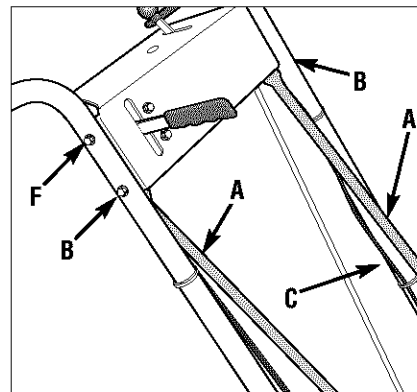
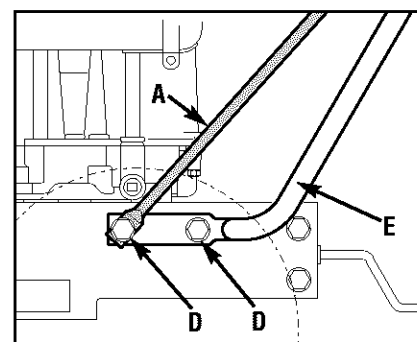

Figure 2-1
Figure 2-2: Attach handlebars and struts to engine deck.
NOTE: Four screws (D, Figure 2-2) are used to connect the handlebars to the engine deck. At the factory, two of these screws (front) are threaded directly into lock nuts welded to the back sides of the deck. The remaining two screws (rear) secure the lower handle to the deck.
2. Carefully pivot the handlebars over the engine and position the handlebar ends (E, Figure 2-2) against the sides of the engine deck. Do not allow the handlebars to rub against the engine while pivoting them.
3. Loosely secure the right-hand handlebar end to the deck by reinserting the screw (D, Figure 2-2) removed earlier. Do not secure the left-hand handle at this point in assembly.
4. Remove the nut from the lower screw (B, Figure 2-1) which secures the console to the handlebar on the left-hand side of the unit.
5. Position a handlebar strut's smaller hole (A, Figure 2-1) over the screw (B, Figure 2-1) on the INSIDE of the console, with the strut's flat side against the console.
7. Align the loose end of the left-hand handlebar strut (A, Figure 2-2) over the front hole in the handlebar end. Secure the strut and handlebar to the deck with the 5/16"-18 x 3/4" screw (D, Figure 2-2) removed earlier.
9. On both sides of the unit, securely tighten the screws (D, Figure 2-2) at the lower ends of the handlebar before tightening the screws (B & F, Figure 2-1) on the console.